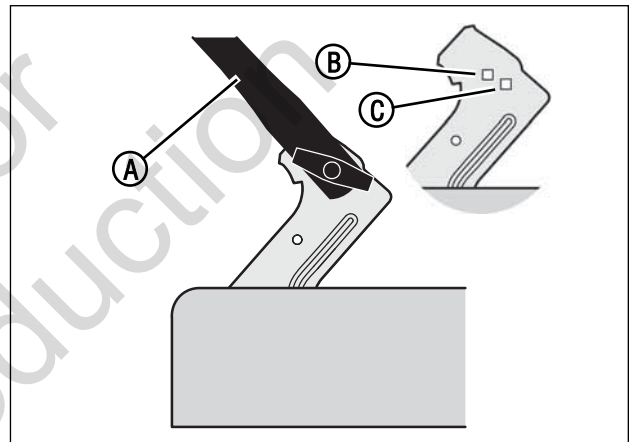

Figure 5a: Handle positions (Models M2255, NM2255, MP2265, NMP2265)
2. Mount the lower handle (A, Figure 5a) in the low hole (C).